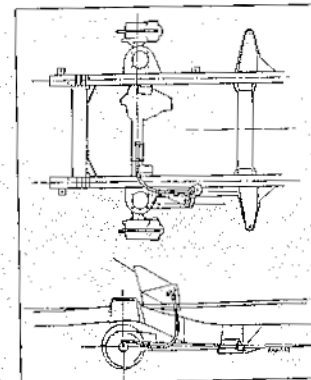

Fig. 13.131 Front axle breather location - later models (Sec 13)
2. The location and layout of the breathers and tubes are shown in Figs. 13.131 and 13.132.